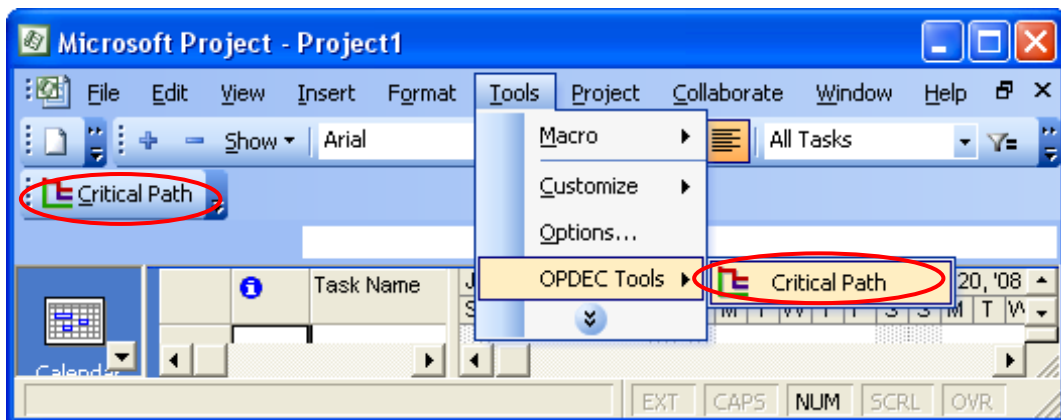

Figure 1
- 2) Click on “Critical Path” in the OPDEC toolbar or select OPDEC tools from the tools menu (Figure 1)